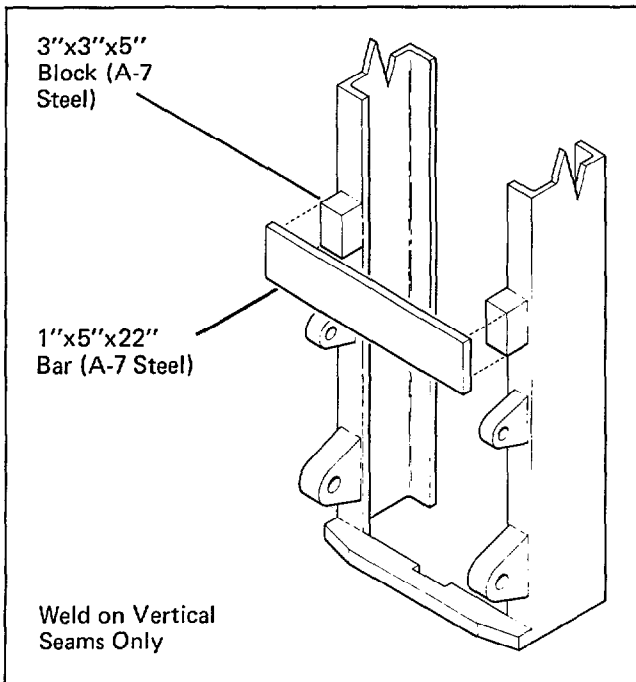

Figure 1-3 Fabricated Crossbar Bracket
3. Weld a block to each outer upright channel not more than 6" above the cylinder anchor brackets. See Figure 1-3. Use E-70XX low hydrogen welding rod and weld on vertical seams only. Preheat to 300° F, wrap with asbestos and allow to slow cool.